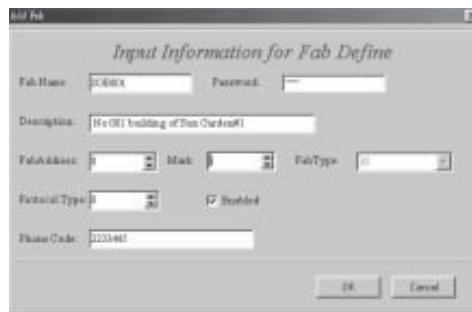

Fig. 4-7 Adding or Modifying FABs Dialogue box 2
2.1 Click **Add** and enter the next Dialogue box as in Fig. 4-7. Enter the FAB name, Address, Type and Mark.